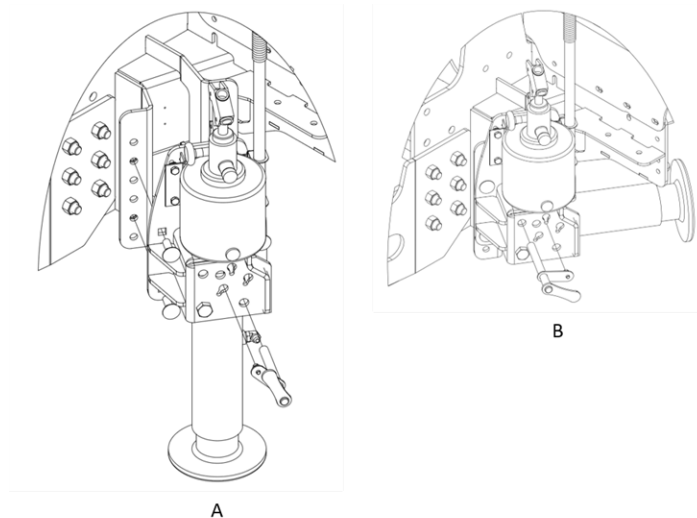

Figure 7 — Hydraulic Jack Extended (A) and in Transport Position (B)
5. Put the trailer jack in transport position (Figure 7).
3. Put the jack in vertical position (Figure 7).